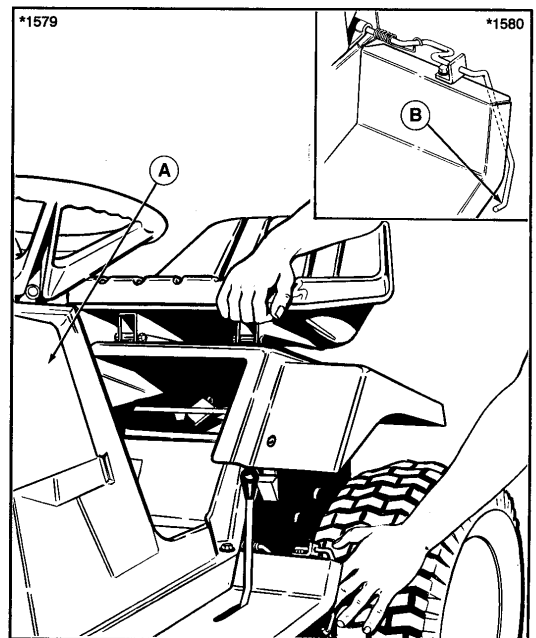

Figure 12. Operating the Seat Deck
To raise the hood, grasp both sides of the hood (A, figure 12) near the dash and pull outward. Pivot the hood up and forward. To open the seat deck, pull down the latch (B) under the foot rest and tilt seat deck back.